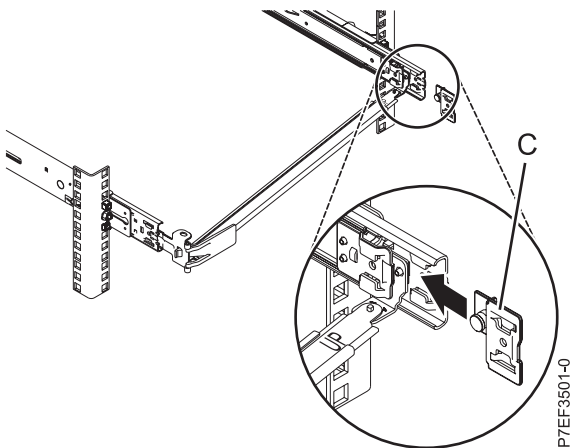

Figure 16. Extending the mounting bracket pin and installing the mounting bracket into the slide rail
4. Slide the mounting bracket (C) into the right slide rail until the spring-loaded pin snaps into place, as shown in Figure 16.